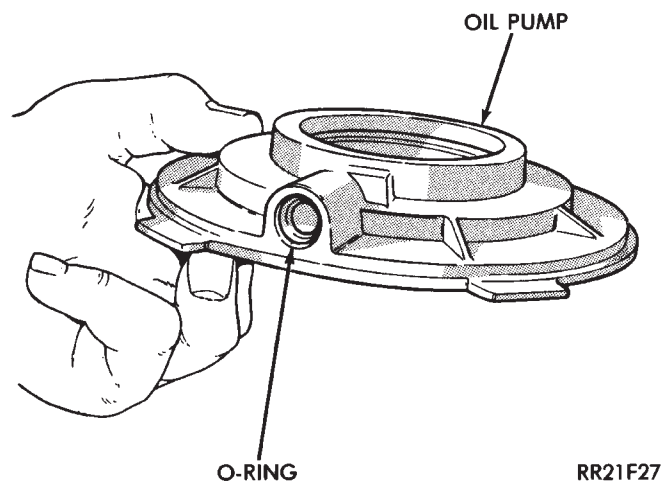

Fig. 7 Pickup Tube O-Ring Location
(14) Remove oil pump from rear case.
(15) Remove pickup tube O-ring from oil pump (Fig. 7).
(16) The oil pump can be disassembled for cleaning and inspection as described in steps